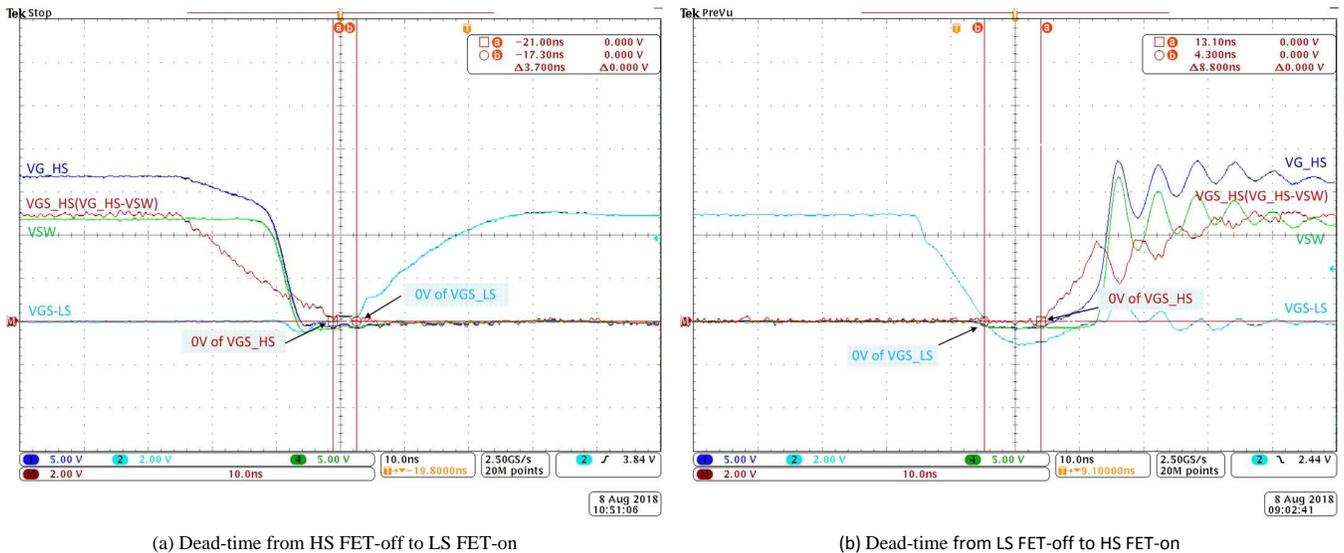

Figure 9. Dead-time Measurement for  $V_{GS}$  at 0 V
2. Cursors locate at 0 V of  $V_{GS}$  of both HS FET and LS FET, Dead-time from HS FET-off to LS FET-on is 3.7 ns and from LS FET-off to HS FET-on is 8.8 ns. (See Figure 9 )